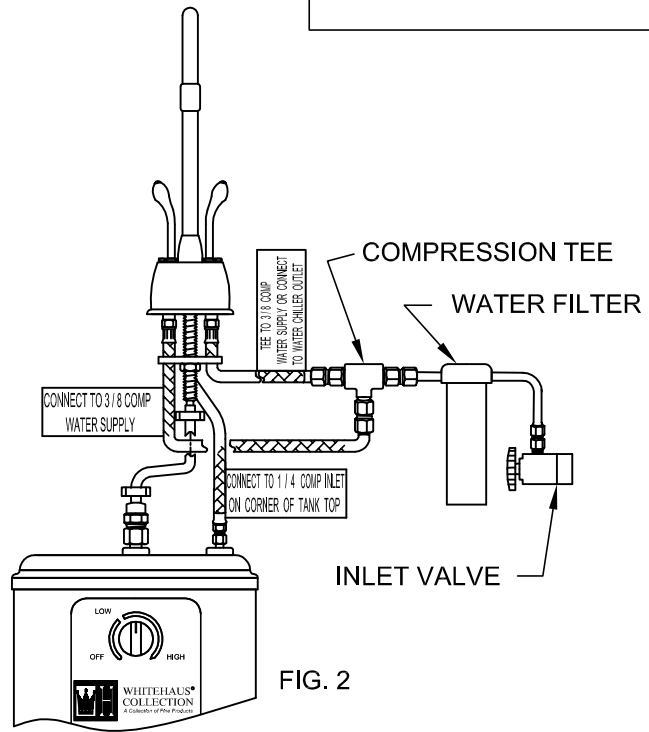

FIG. 2
7. **FOR WHFH-HC4550 & WHFH-HC4650** - IF A **WATER FILTER** IS USED SEE FIG 2. CONNECT THE TWO WHD2001 3/8" COMPRESSION HOSES TO A COMPRESSION TEE THEN CONNECT TO THE FILTER OUTLET. DO NOT CONNECT WITHOUT A SHUTOFF VALVE. **FLUSH** ALL LINES BEFORE CONNECTING. GO TO STEP 10.
10. CONNECT THE WHD2002 1/4" COMPRESSION HOSE TO THE TANK INLET LOCATED IN THE RIGHT HAND BACK CORNER ON THE TOP OF THE TANK. SEE FIG 2 TO 6 FOR YOUR INSTALLATION.